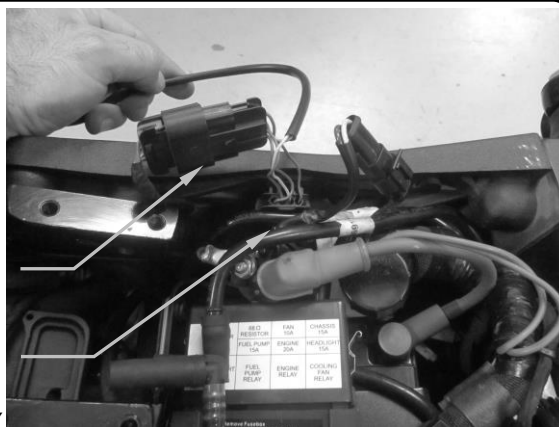

FIGURE 10
9. Locate rear oxygen sensor along right side frame member in under seat area, see Figure 10. Pull connector set up, and disengage female from male connector by pressing tab on side of connector, be sure not to let male connector fall down between frame member and relay/main wire harness. Mate corresponding stock connectors with rear harness Fi O2 connectors. Tuck back into place between frame and relay area.